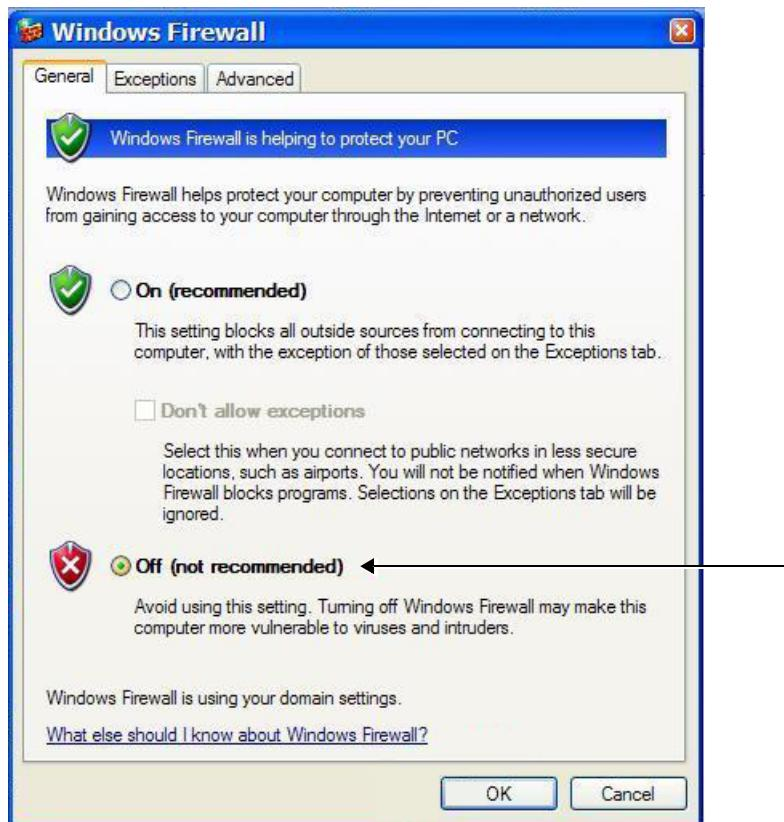

Figure 3-111 Windows Firewall Dialog Box
- 4.) Enable the **Off** check box (as shown in Figure 3-111).